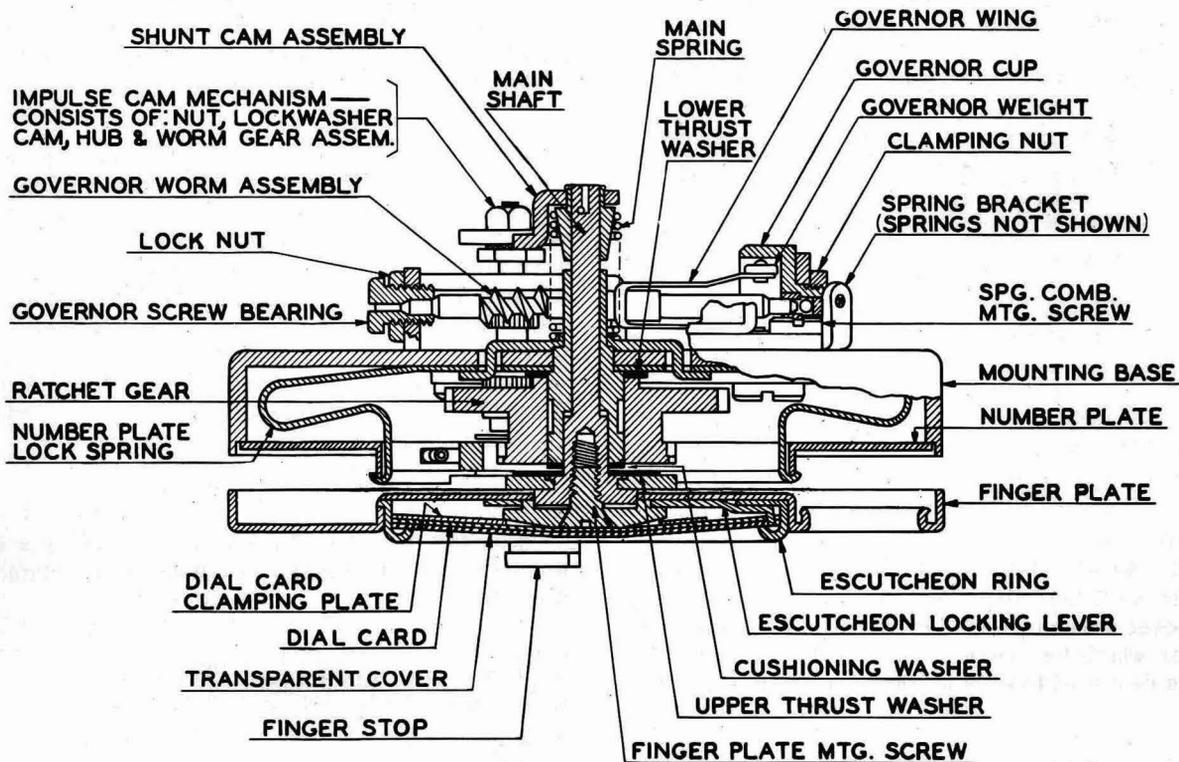

Fig. 12: Cross-Sectional View of Type 24A36 Dial
To lubricate the main shaft and the main gear bearing which runs on a sleeve surrounding the main shaft (figure 12), it is necessary (1) to remove the dial escutcheon; (2) to remove the finger plate mounting screw. Place a drop of the correct lubricant (figure 14) in the hole. While the dial finger plate is off, lubricate other interior points as shown in figure 14.